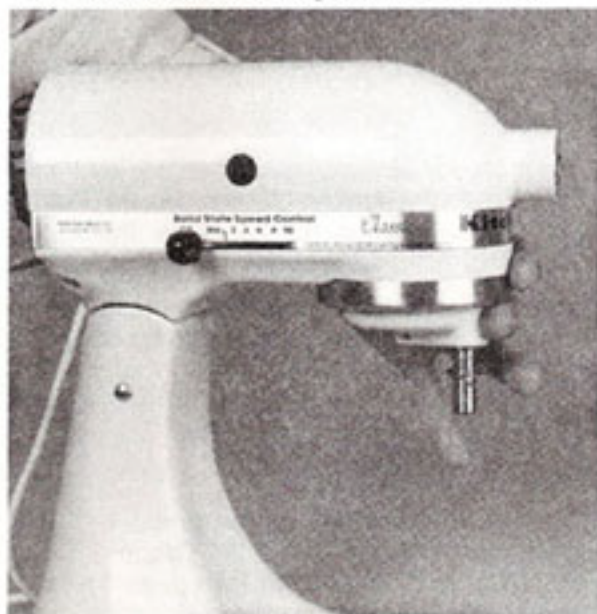

Fig. 77
- C. To adjust the speeds, move the switch lever to stir. This may or may not start the motor. If motor did not start, turn out the two adjusting screws evenly and stop when planetary turns about 60 revolutions per minute. To test the speed, hold a finger of the right hand at the planetary. Let beater shaft hit finger (Fig. 77). Count the number of times the finger is touched in 15 seconds. Adjust the two screws until the shaft touches the finger about 15 times.